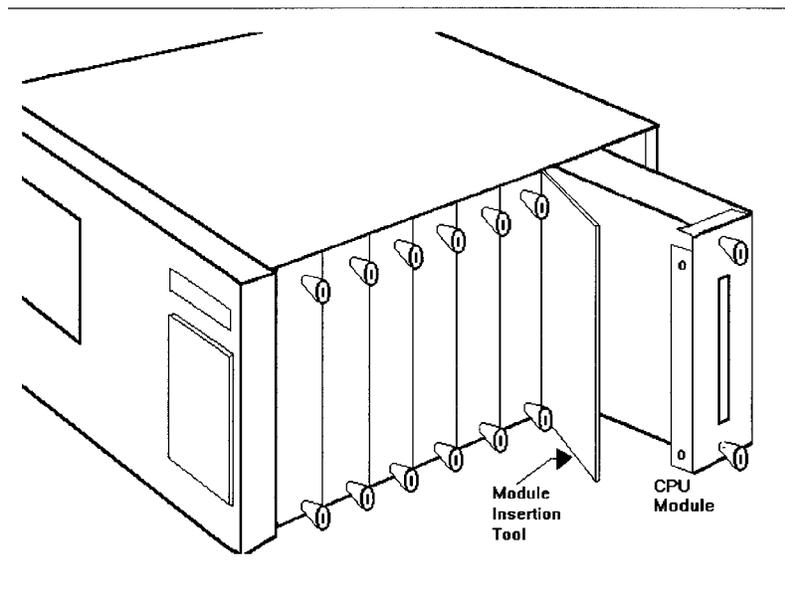

Figure 1 Position of Processor Module and Insertion Tool
5. Remove the clamp screws on the top and bottom right-hand side of the chassis which secure the CPU Module (see Figure 1).
To prevent removal of, or damage to the metal RFI STRIP on the module next to the CPU, you **MUST** use special tool part number 03776-00016 or a thin LOW-STATIC plastic or fibre card (200mm x 135mm x 0.5mm) when inserting the CPU module back into the instrument. Place this card against the RFI Strip, then slide the CPU Module back into the instrument. Push the CPU Module fully home, then pull out the card - see Figure 1. Severe damage can result if an RFI Strip is dislodged and falls inside the instrument. Always ensure that RFI strips are securely in position and unbroken.